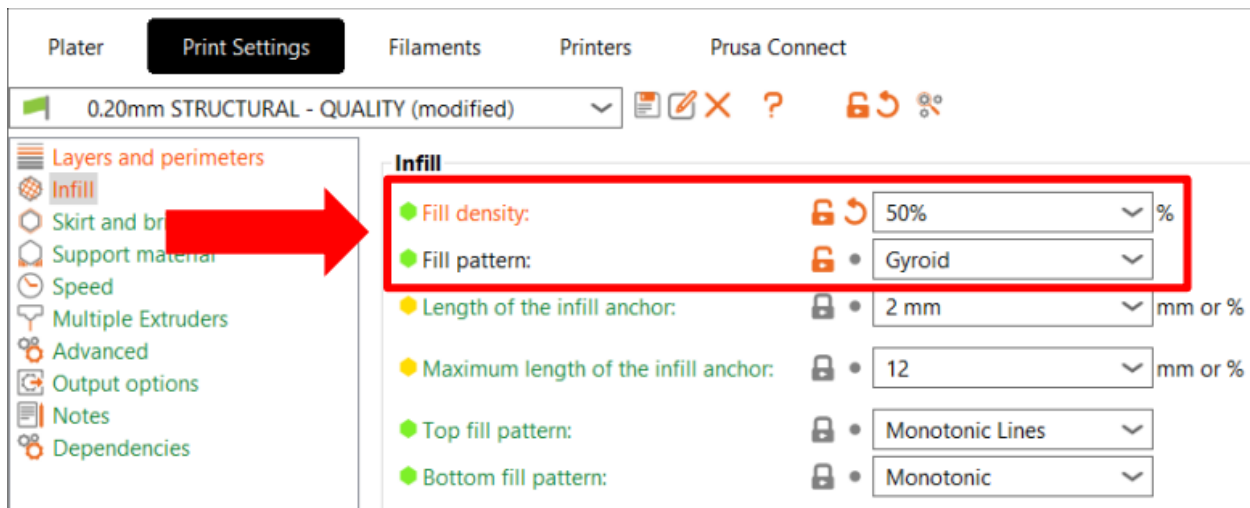

Figure 3
4.) Change the fill density to 50% and the fill pattern to Gyroid (see red box in Figure 3).